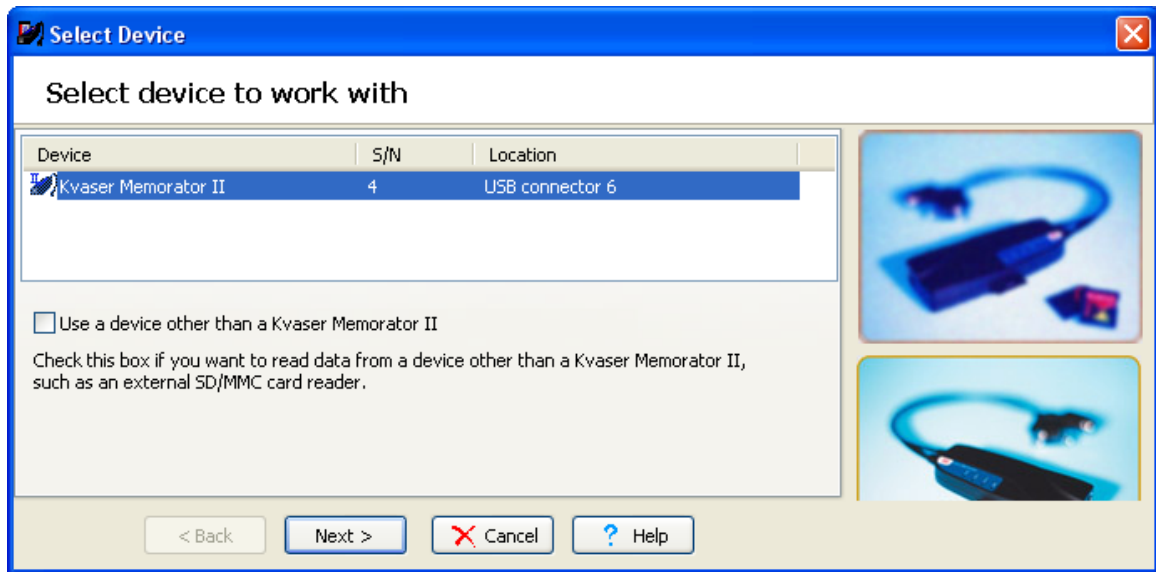

Figure 21. Connect.
- A wizard to select the device to work with will be shown. See Figure 21.